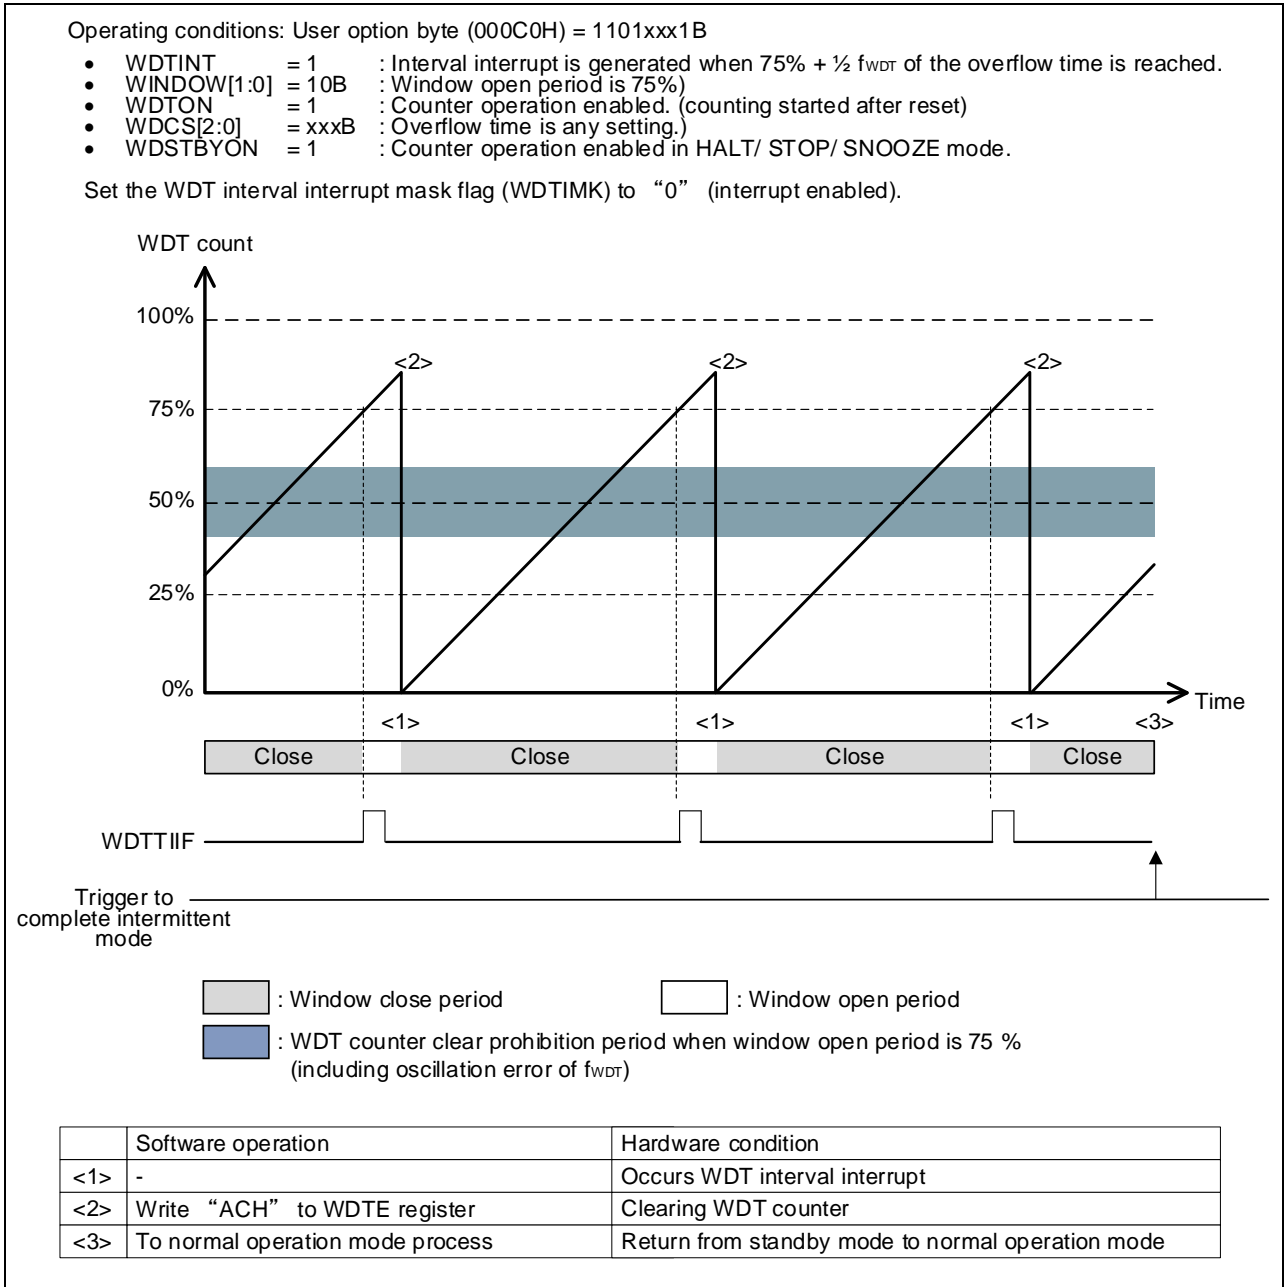

Figure 15-2 Processing Example When Using the WDT Function
- (1) When the window open period of watchdog timer is set to 75%, the processing to avoid the window close period and clear the counter. Table 15-1 shows the watchdog timer counter clear prohibition period when the window open period is set to 75%, and Figure 15-2 shows a processing example that the processing to avoid the window close and clear the counter in standby mode (intermittent operation).
Figure 15-2 shows a processing example that returning from standby mode to normal mode by the WDT interval interrupt and clear the WDT counter (write “ACH” to the WDTE register).
P.62	Corrected "Figure 15-2 Processing Example When Using the WDT Function".